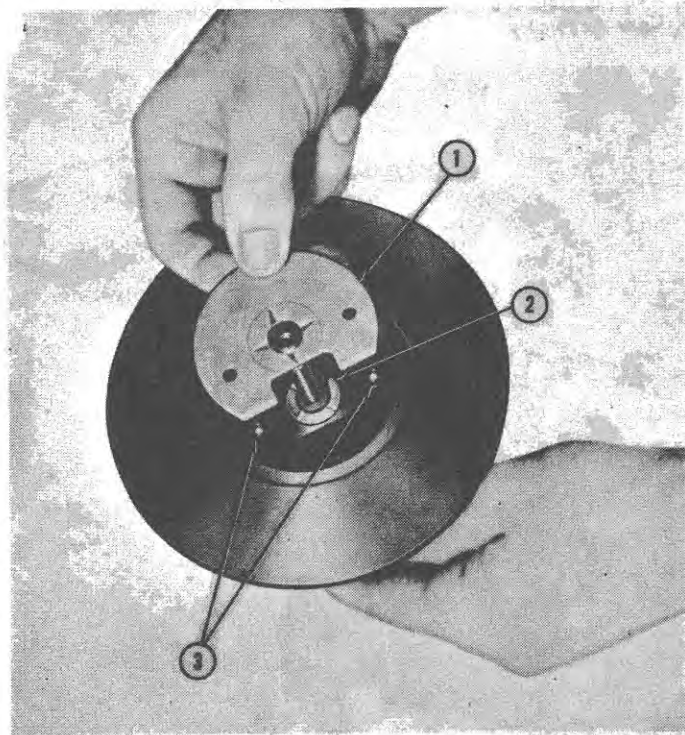

Figure 9
3. Lubricate the bearing thoroughly. Slide the bearing onto the shaft and into the bearing housing bore, Figure 9.
4. Lubricate the thrust bearing thoroughly and install it, bronze face up, over the shaft, aligning the holes in the bearing with the two dowel pins in the bearing housing. See Figure 9.